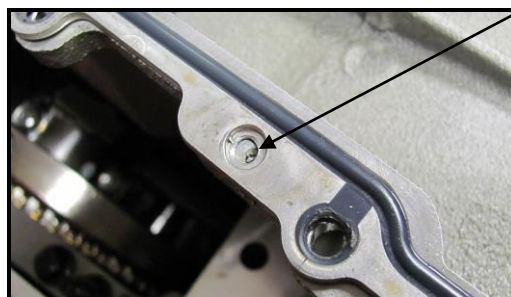

Figure 1
10. If reusing the oil pan gasket, carefully drill out the oil pan gasket rivets (x2) if necessary (**Figure 1**).